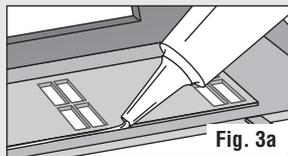

Fig. 3a
- Center Window Material and dab a small amount of glue carefully around edges (**Fig. 3a**).